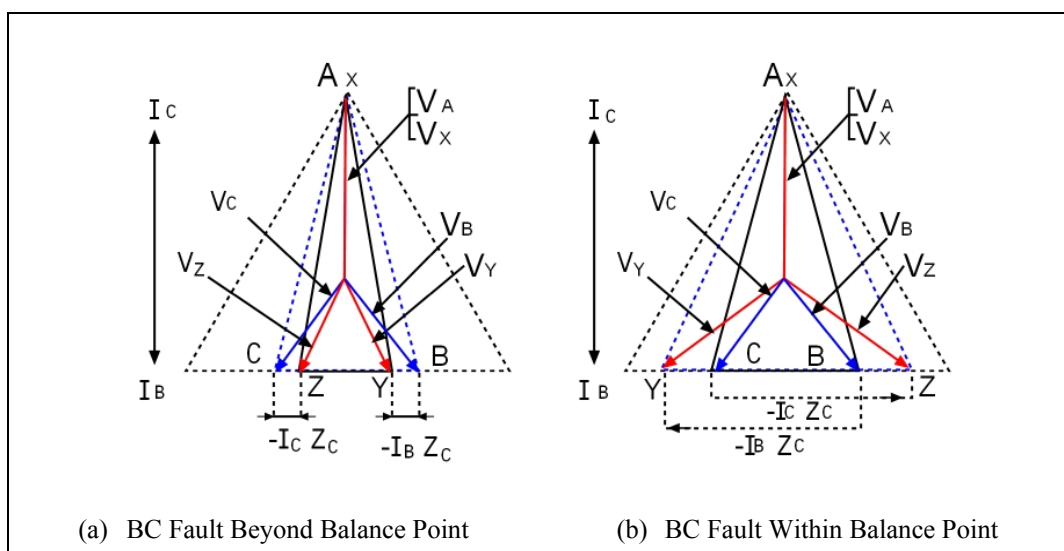

Fig. 2.2-21 Type KD Relay Phase-to-Phase Unit Voltage and Current Relationships for different Fault Conditions
The mutual impedance of the compensators is set so that it is equal to the desired line balance point impedance in terms of secondary ohms. By means of a loading resistor connected across a portion of the secondary winding of the line drop compensator, the angle between the primary current and the secondary voltage of the compensator can be made equal to the angle of the protected line section. Consider a phase to phase (BC) fault beyond the relay balance point. Since there is a greater impedance drop between the fault location and the relay, the voltage triangle will not be collapsed as much as for the fault at the balance point. This condition is shown in Fig. 2.2-21(b). The collapsed voltage triangle is defined by **ABC**. The potentials are modified by the drops in the compensators in phases **B** and **C** to give the voltage triangle applied to the relay of **XYZ** rotation. This triangle has positive sequence rotation and the relay receives a restraining torque. Thus, the contact will not close for this fault, which is beyond the balance point of the relay.
If the fault is moved closer to the relay (within the balance point), the voltage conditions become, as shown in Fig. 2.2-21(c). The potential of point (X) coincides with that of point A. The compensator voltages subtract from the system voltages as before, but because of the smaller initial voltage at the relay location and the increased fault current magnitude, the positions of points (YX) and (Z) actually cross, thus giving us a triangle of voltage applied to the relay unit of phase rotation XZY.